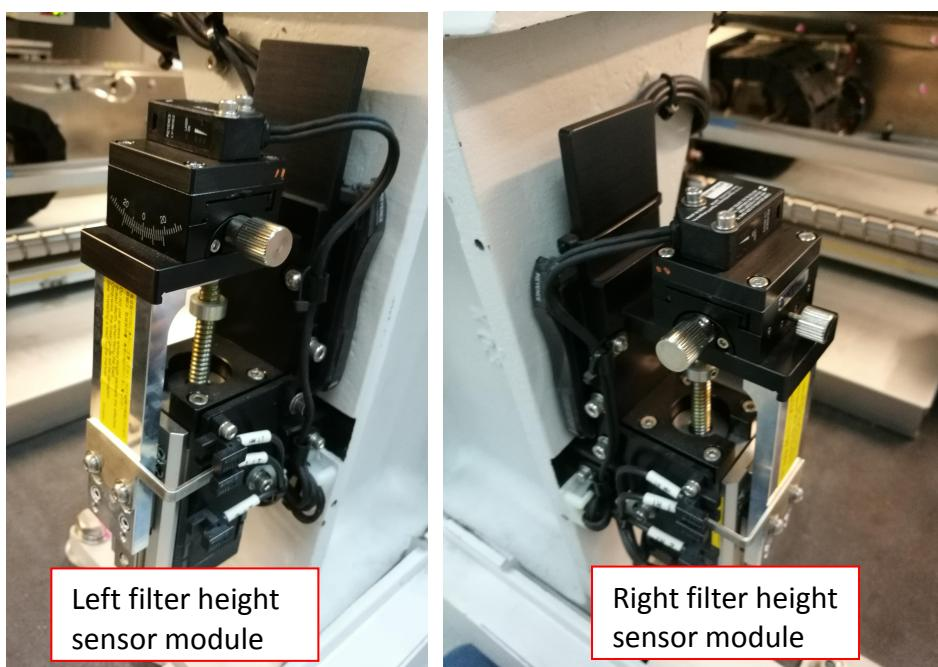

Figure 24 Filter height sensor module
3. Identify left & right filter height sensor as shown in Figure 24.